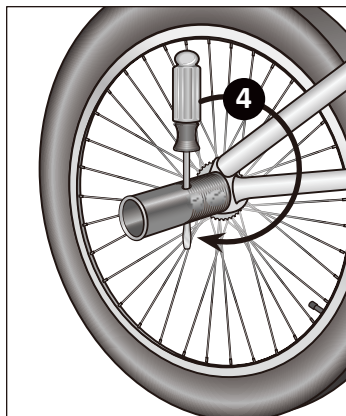

Figure 3.21
- ❹ Insert a screwdriver or similar tool through the peg holes and tighten by turning the peg with the tool. **Figure 3.21**
- ❺ Remove one of the axle nuts with the ratchet; then remove any remaining washers.
- ❻ Screw on the axle adapter washer if needed. When the pegs are larger than the axle, a special washer is needed so that the pegs fit properly. If your pegs and axle are the same size, skip this step.
- ❼ Insert anti-roll pins into the peg so that the pegs remain stationary while performing tricks. Screw the pin tightly, using an Allen wrench.
- ❽ Slide the peg over the axle; secure the anti-roll pin and loosely tighten with the deep-well socket.
- ❾ Ensure there is no friction between the wheel and the chain stays and brake pads. Adjust the wheel if necessary so that all parts work freely. Once parts are in working order, use the deep-well socket to tighten the axle nut.